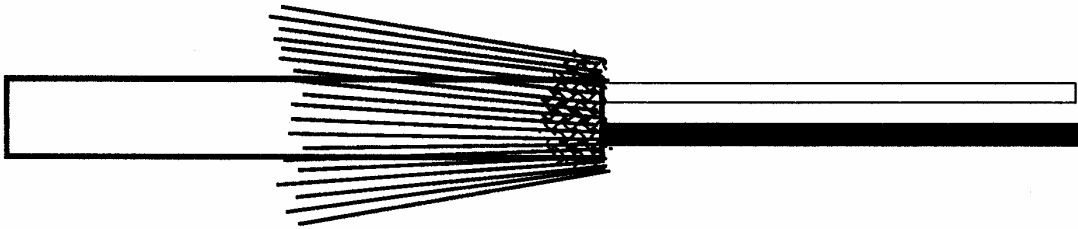

Figure 5-10. Twinaxial Cable Preparation: Conductors Ready to Strip
9. Straighten the twisted pair wires (Figure 5-10).